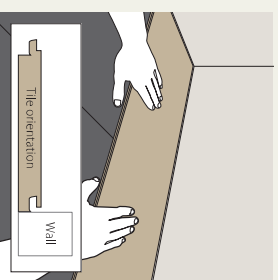

Figure 1
**4 Begin by peeling back the protective cover on the Xtralloor underlay and lay the first row in the corner of the room on your left hand side as you are looking at the wall. Always work from left to right and with the tongue towards yourself. Figure 1**